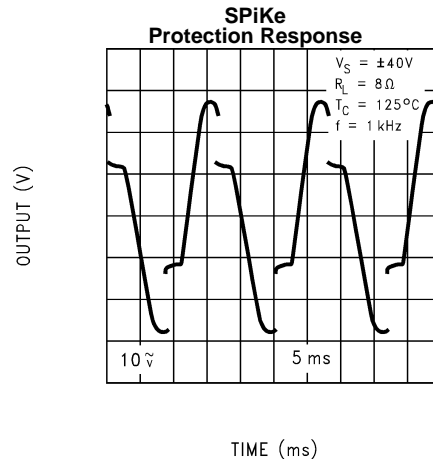

Figure 5.
- (1) All voltages are measured with respect to the GND pin (pin 7), unless otherwise specified.
- (2) Absolute Maximum Ratings indicate limits beyond which damage to the device may occur. Operating Ratings indicate conditions for which the device is functional, but do not guarantee specific performance limits. Electrical Characteristics state DC and AC electrical specifications under particular test conditions which guarantee specific performance limits. This assumes that the device is within the Operating Ratings. Specifications are not guaranteed for parameters where no limit is given, however, the typical value is a good indication of device performance.
- (3) Operation is guaranteed up to 84V, however, distortion may be introduced from **SPiKe** Protection Circuitry when operating above 70V if proper thermal considerations are not taken into account. Refer to the THERMAL CONSIDERATIONS for more information. (See Figure 5)